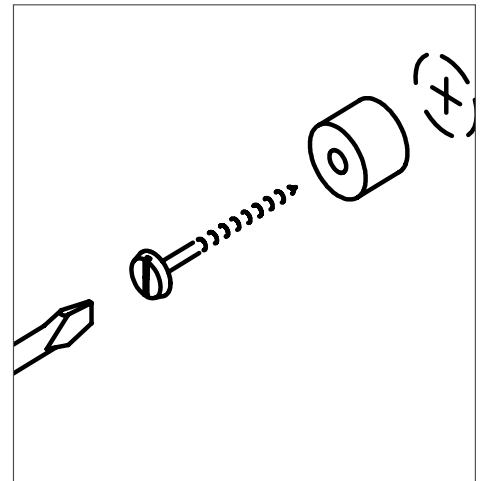

Fig 4.0
- Screw the mounting inserts securely to the wall at the locations marked. see Fig 4.0